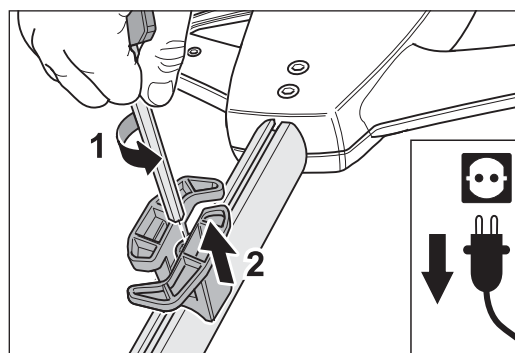

Fig. 21 Release the screw. Do NOT remove it completely, and remove the cable holder WITH the sliding block.
- 1 To remove or replace a cable holder, slacken the screw in the middle of the cable holder. **Do not** remove the screw entirely from the sliding block! You can now remove the cable holder together with the sliding block (Fig. 21).